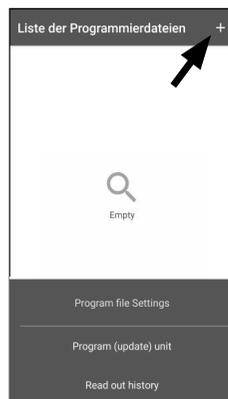

Fig. 71
- ⑤ Tap the "+" at the top right to add your required changes or the corresponding cylinder to the list (Fig. 71).